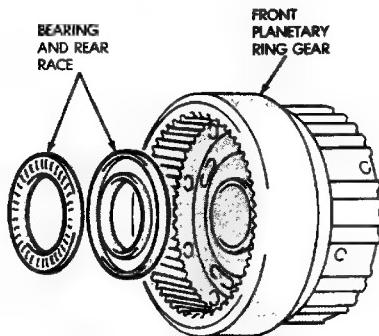

Fig. 35 Removing Ring Gear Bearing And Rear Race
(43) Remove thrust bearing and rear race from ring gear (Fig. 35).